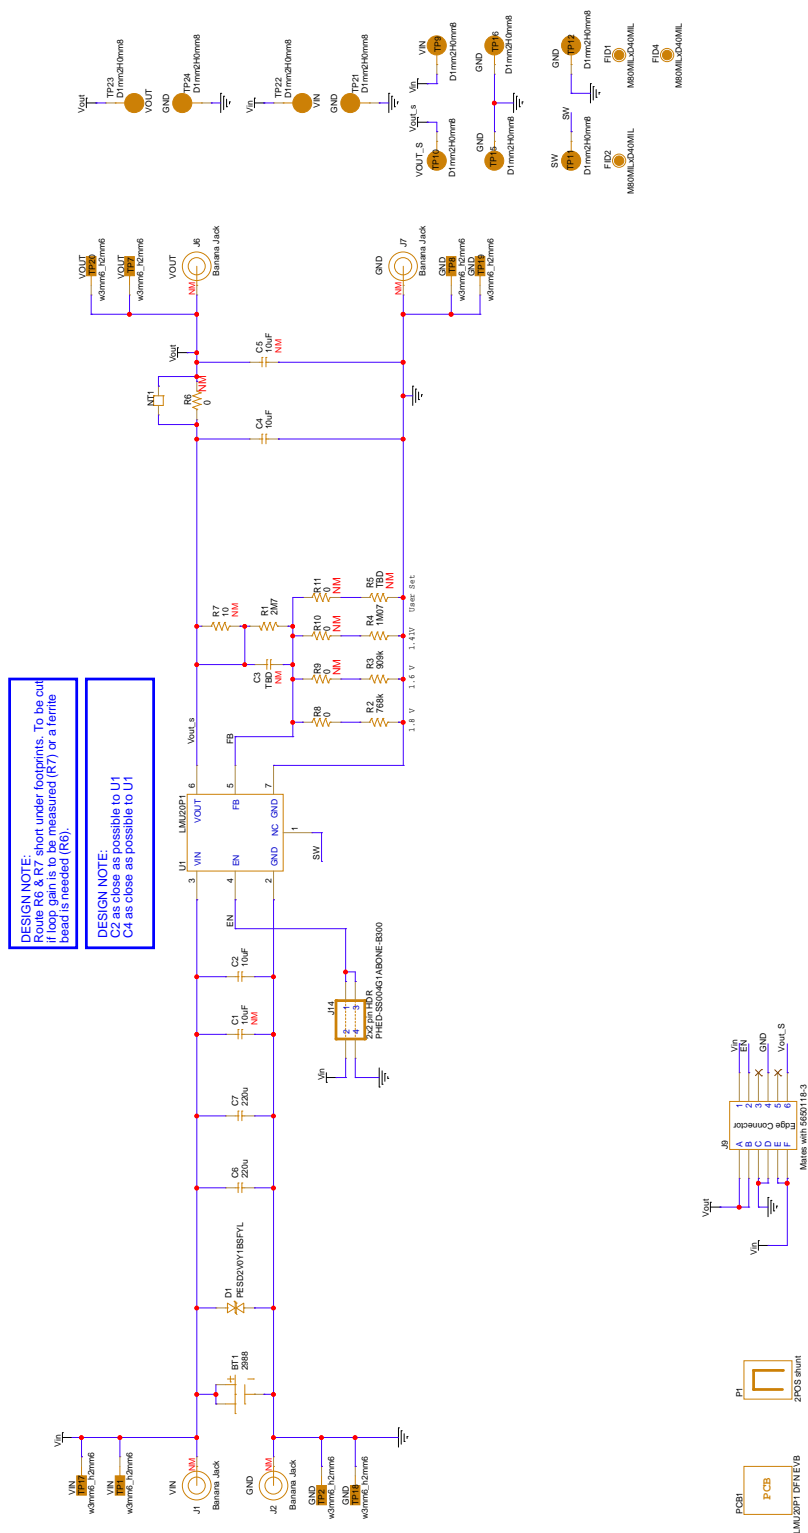

Figure 5: LMU20P1-EVB schematic
- Set the feedback resistors according to the schematic of figure 5 to set the desired output voltage.